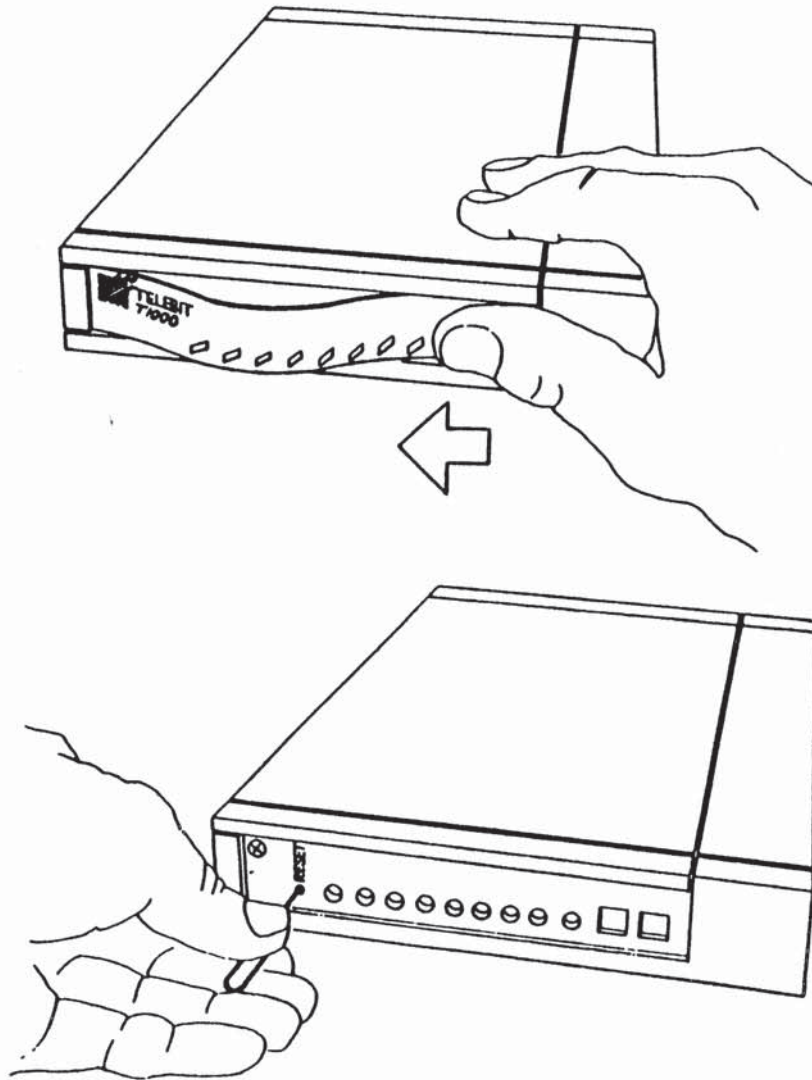

Figure 3-2. Reset Switch Location
2. Remove the flexible plastic label on the front panel. See Figure 3-2.